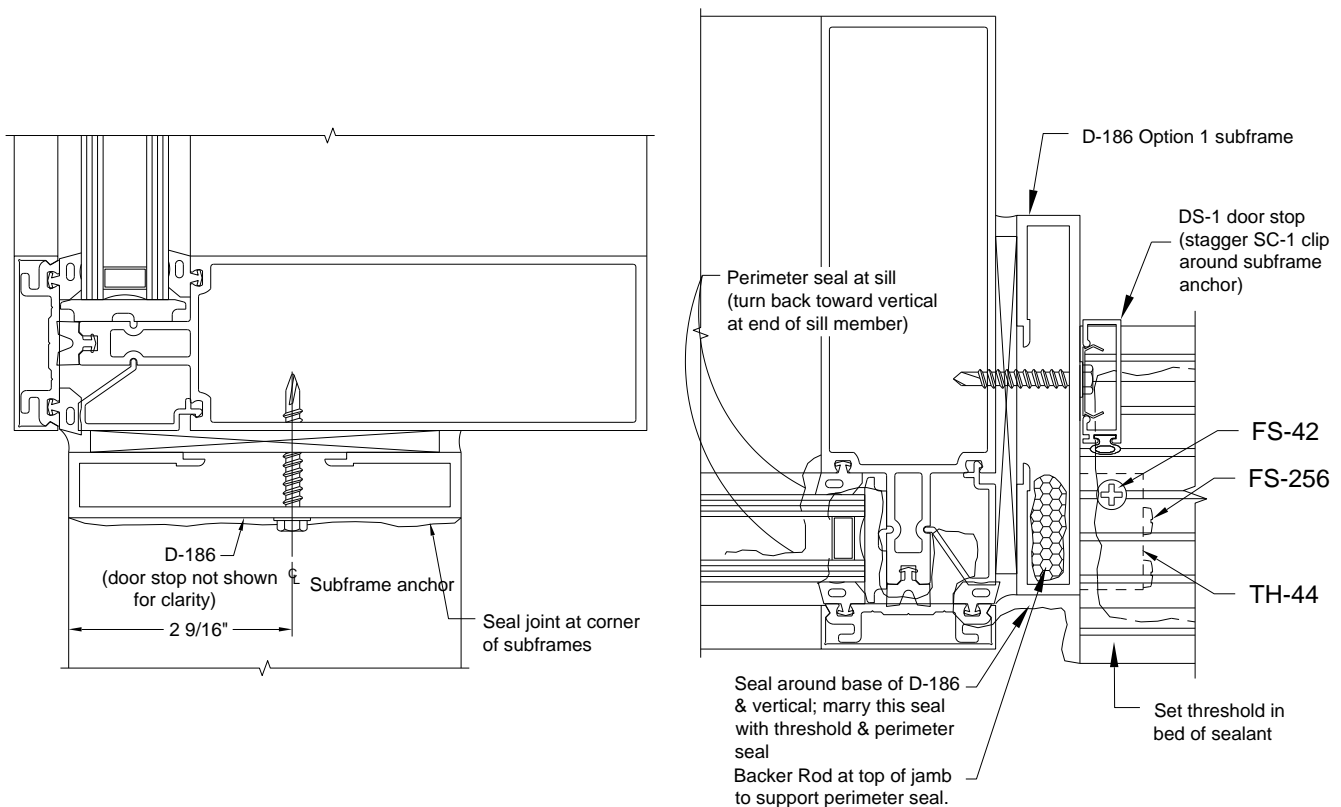
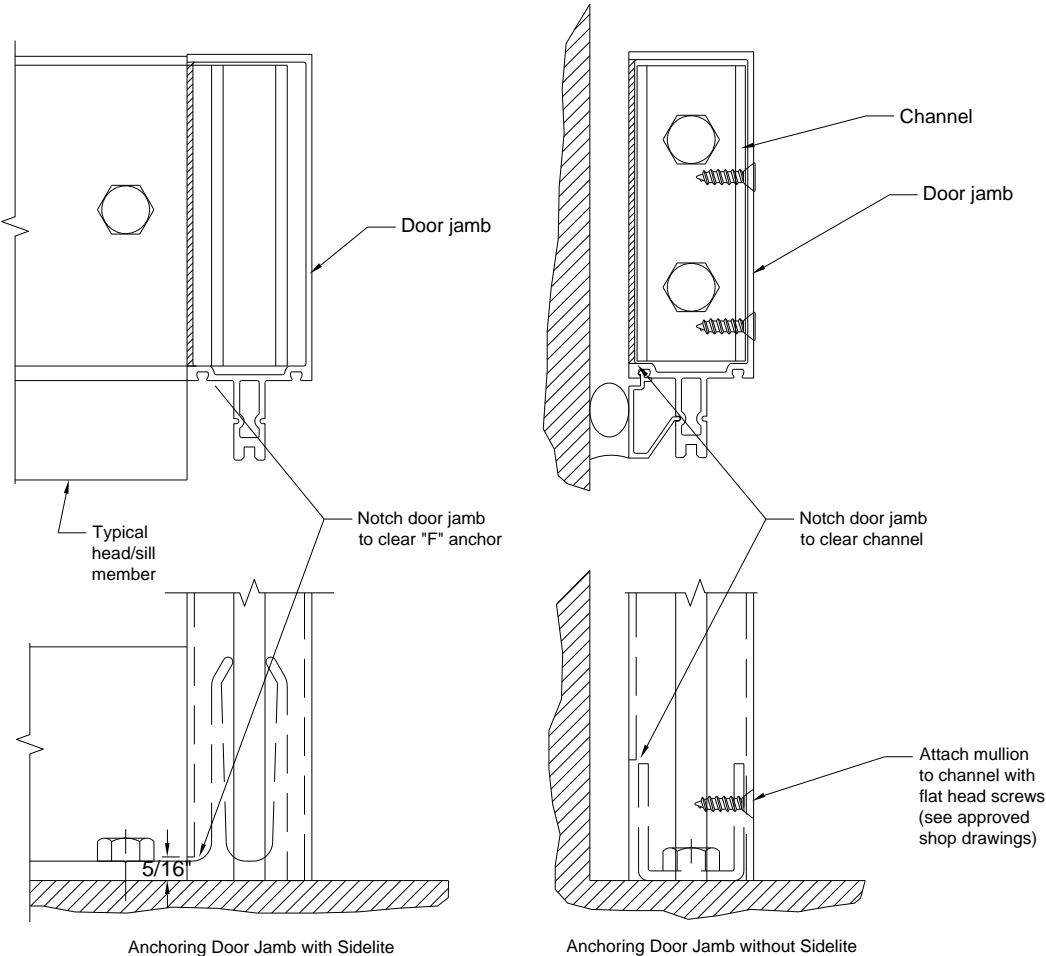

Figure 55: Attached Subframes
Figure 62: Anchoring Door Jamb Mullions
- B1.1 Curtain wall verticals and door subframes run through to finished floor. Bed adjacent curtain wall verticals in sealant and anchor to floor per approved shop drawings. See *Figure 62* for suggestions on anchoring door jamb mullion.
- B1.2 Attach TH-44 threshold clip to bottom of each jamb subframe with two (2) FS-256 fasteners.
- B1.3 Bed subframes in sealant. Anchor to curtain wall framing members with FS-316 fasteners at 18" O.C. Cap seal all fasteners and seal joint between jamb and header subframes. Seal tops of the jamb subframes. See *Figure 55*.
- B1.4 Bed threshold in sealant, attaching to TH-44 clips with FS-42 fasteners. Marry threshold seal with subframe and main system seal. See *Figure 55*.